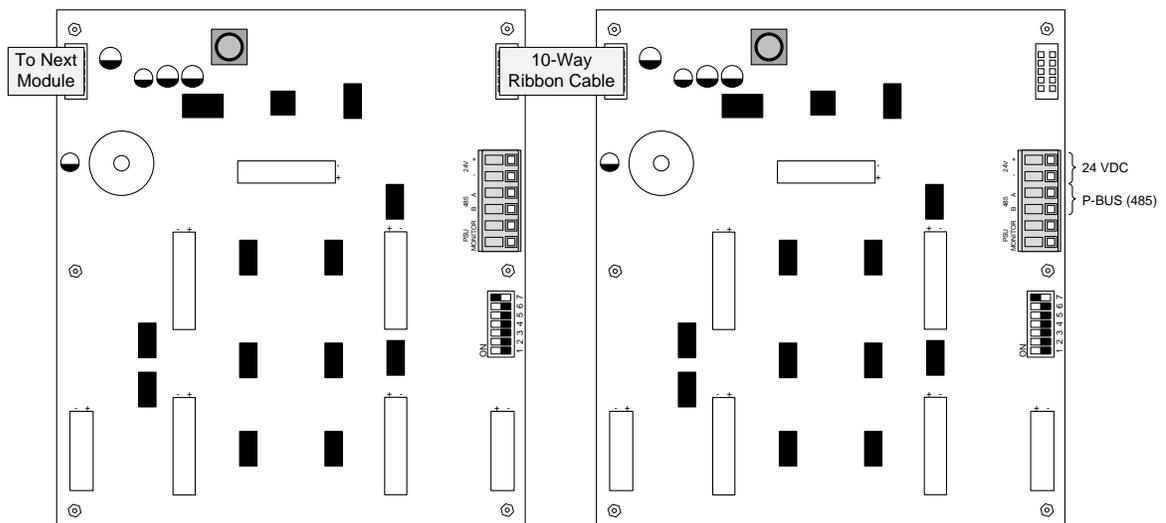

Figure 40 – Switch LED Module Daisy Chain Wiring
**Note: When utilizing multiple switch LED module's on the same inner door row, 24 VDC power and the PBUS (485) wiring can be daisy chained from the first switch LED module to the next (see figure 40).**